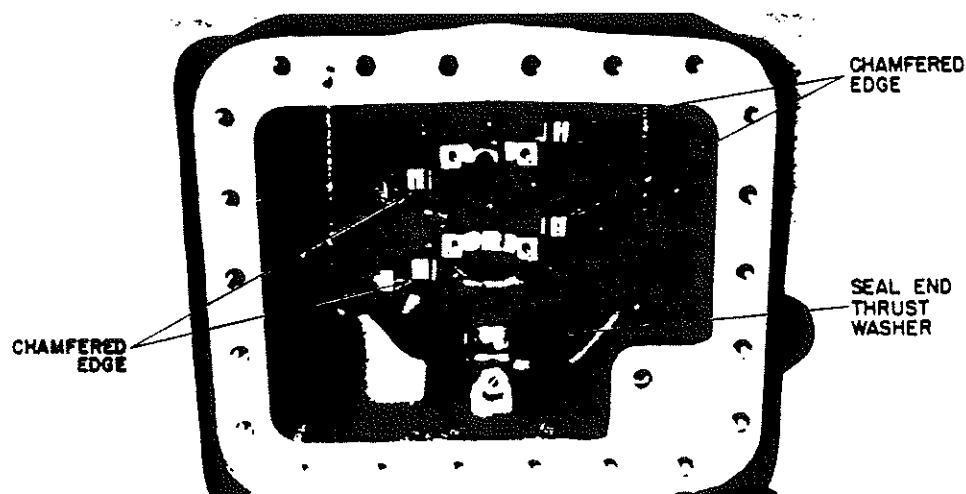

Figure 3-12. Installing Piston Rod Assemblies and Seal End Thrust Washer
- b. Install the piston and rod assemblies up through the bottom of the crankcase and into the cylinders. Allow pistons to extend beyond the top of the cylinder to enable installation of piston rings. Pistons should be installed so that the chamfer, on the connecting rod, faces toward the crankshaft journals. Center rods on each crankshaft throw may be installed in either direction. (See figure 3-12.)
b. Install the seal end thrust washer on the two dowel pins. (See figure 3-12.) Ensure piston rods are pushed out of the way and install the crankshaft.